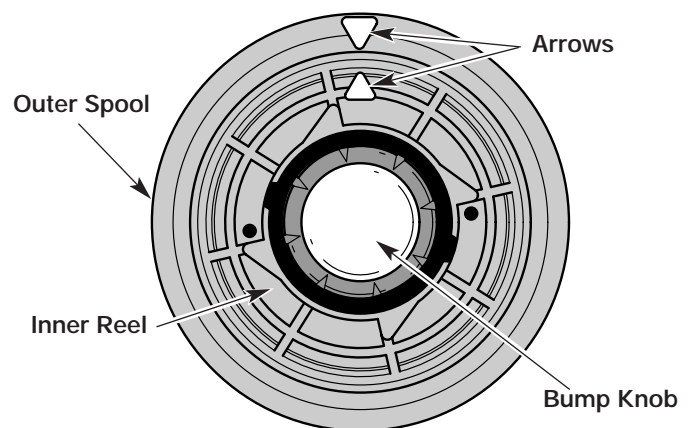

Fig. 36
2. Hold the outer spool and turn the inner reel counterclockwise to line up the arrows on the outer spool and inner reel (Fig. 36).